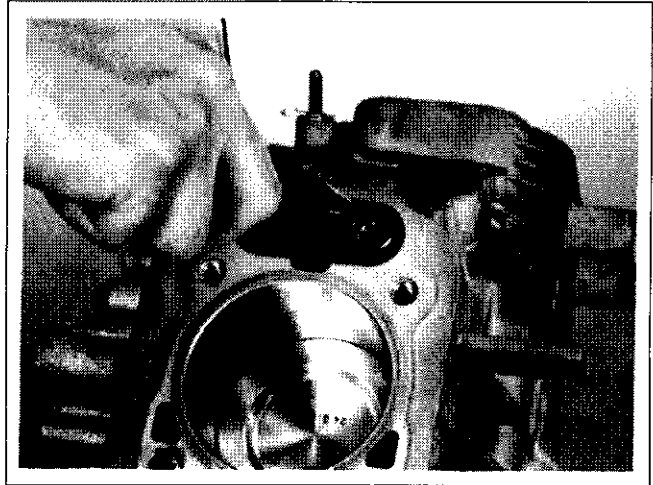

Figure 9-45. Removing Hydraulic Lifter.
4. Remove the lifters. Mark to identify the hydraulic lifters as either **intake** or **exhaust** and **cylinder 1** or **cylinder 2**. Hydraulic lifters should always be reinstalled in the same position. See Figures 9-45 and 9-46.